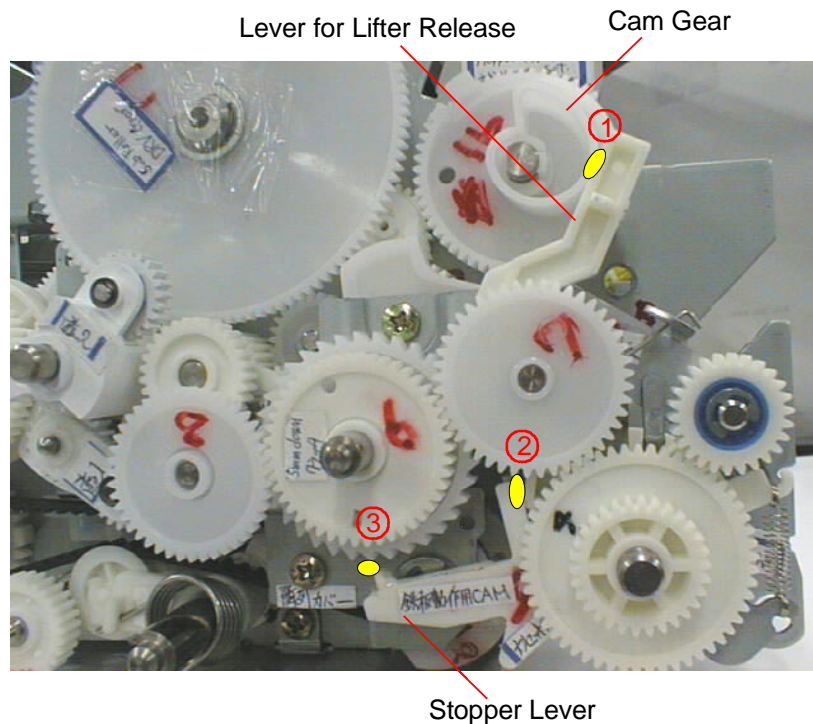

Figure 2-11. Conceptual Figure for Lifter Reset
After the Paper Load Roller loads the paper and performs hopper down 5mm, lifter returns to the original position and the hopper is reset. In order to perform this operation, the stopper lever which fix the clutch gear must leave to downward. In order to perform this, the lever for lifter release needs to be pushed to right side by the rotation of Cam gear. (See ① in the figure2-11)
Cam gear is released by laying down the lever for lifter release toward right direction.(See ② in the figure2-11)